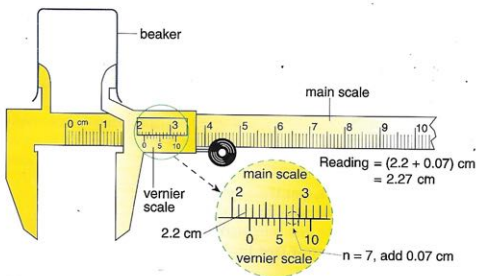
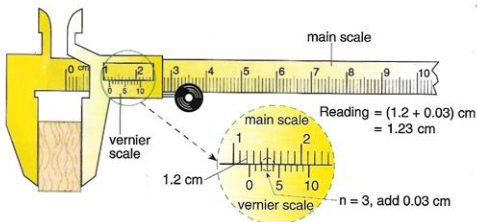

Fig. 2.6 Measuring an internal length
Fig. 2.7 Measuring an external length
- Step 2** Open the jaws wide enough to hold the object to be measured by sliding the vernier scale. If you are measuring an internal length, continue to open the inside jaws until they just touch the object (see Fig. 2.6). If you are measuring an external length, close the outside jaws until they just touch the object (see Fig. 2.7).